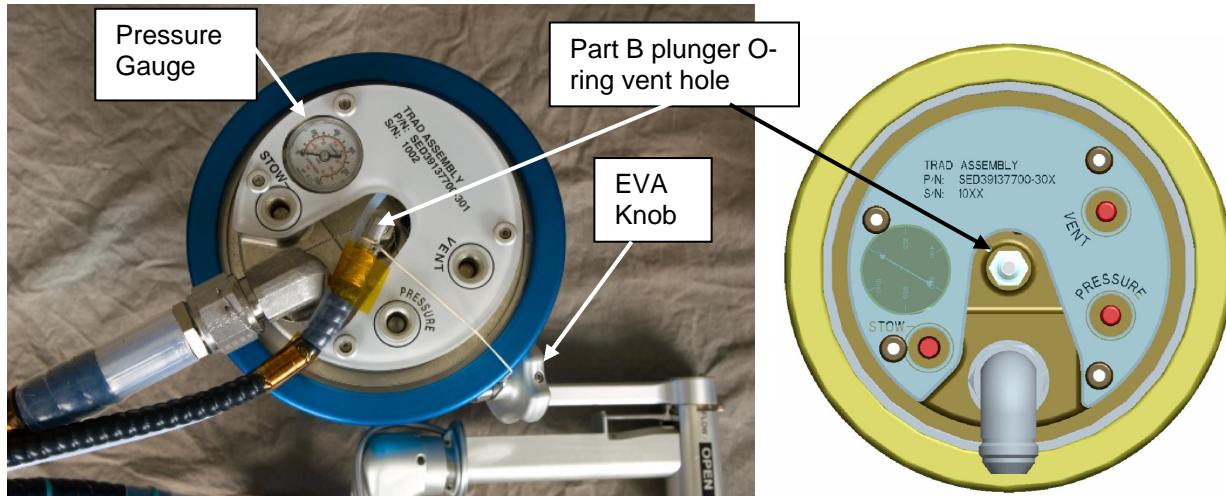

Figure 2.- T-RAD Cover Plate
11. Inspect entire top surface of T-RAD and interior of MLI cover for leakage, paying special attention to the Part B plunger O-ring vent hole (figure 2)